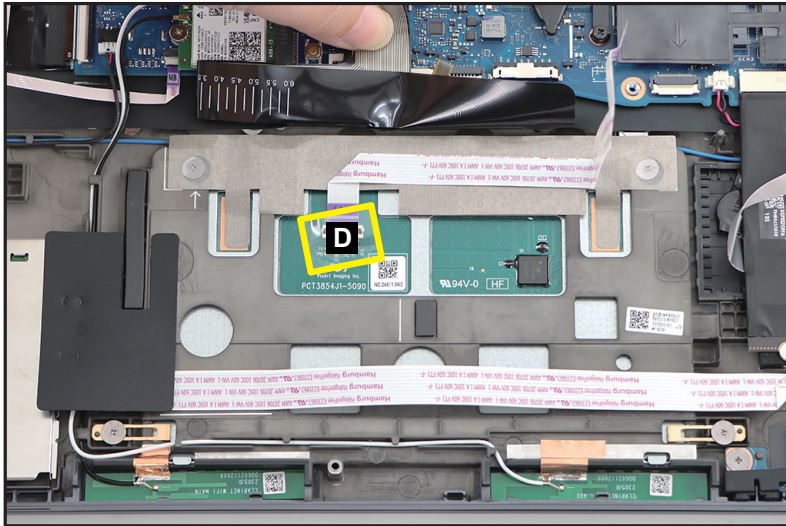

Figure 1-39. Touchpad Module Removal
3. Slightly detach and lift the mylar. Then detach the mylar (D) securing the touchpad FFC connection (Figure 1-39).